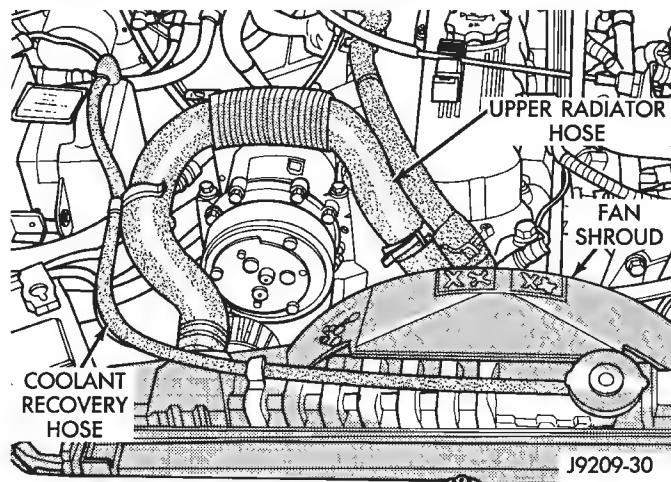

Fig. 15 Upper Radiator Hose, Coolant Recovery Hose & Fan Shroud
(3) Remove the radiator drain cock and radiator cap to drain the coolant. DO NOT waste usable coolant. If the solution is clean, drain the coolant into a clean container for reuse.
(4) Remove the lower radiator hose.
(5) Remove the upper radiator hose and coolant recovery hose (Fig. 15).
(6) Remove the fan shroud (Fig. 15).